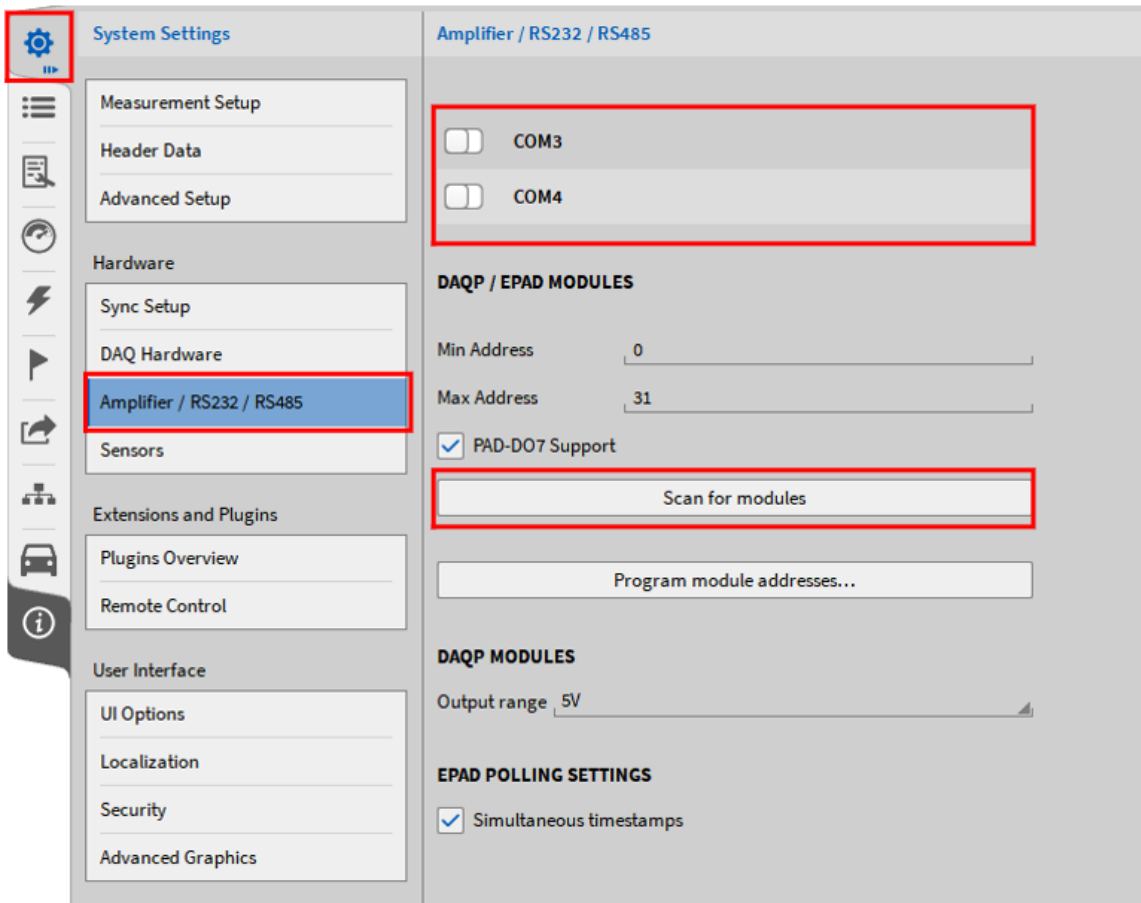

Fig. 4.23: Selection of the proper COM port
- Select the proper Serial Port for your EPAD2 module by clicking on the *Select ports...* button (see Fig. 4.23). Systems in Europe are typically assigned to COM2 and systems in the USA are typically assigned to COM3).